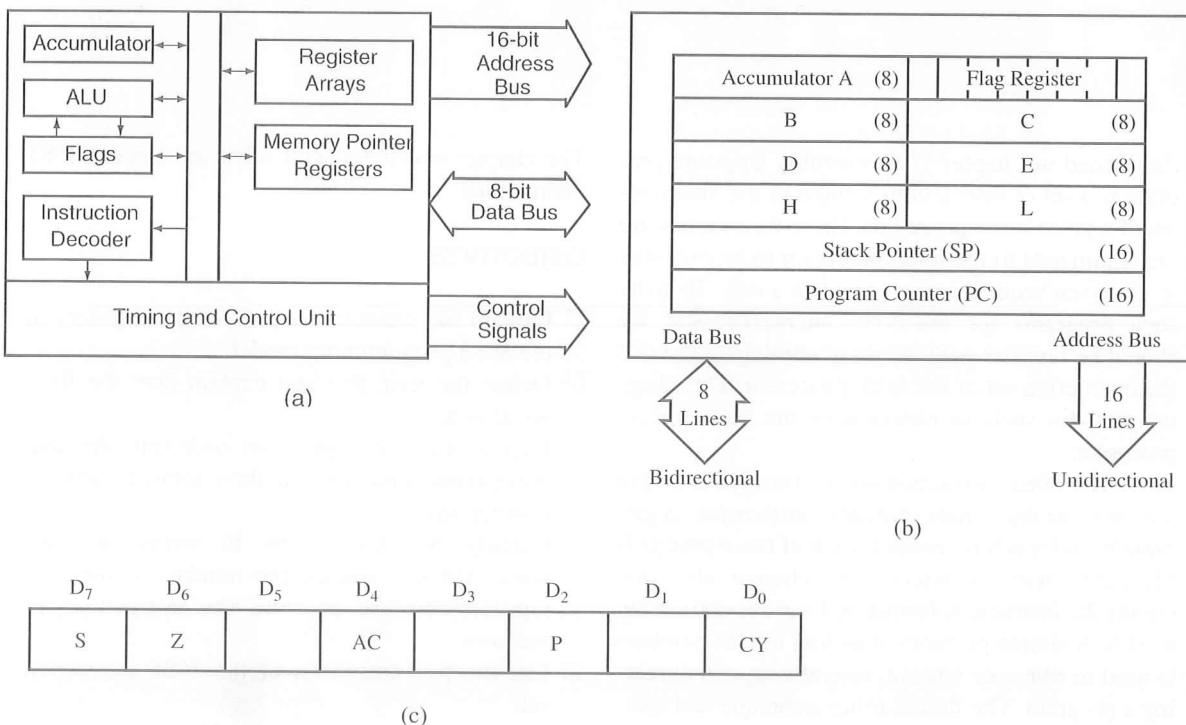

FIGURE 2.1
A model is a conceptual representation of a real object. It can take many forms, such as text description, a drawing, or a built structure. Most of us have seen an architectural model of a building. Similarly, the microprocessor can be represented in terms of its hardware (physical electronic components) and a programming model (information needed to write programs). In Chapter 1, we described a simplified hardware model of a microprocessor as a part of the microprocessor-based system (Figure 1.3). It showed three components: ALU, register array, and control. Figure 2.1 shows a hardware model and a programming model specific to the 8085 microprocessor.
The hardware model in Figure 2.1(a) shows two major segments. One segment includes the arithmetic/logic unit (ALU) and an 8-bit register called an accumulator, instruction decoder, and flags. The second segment shows 8-bit and 16-bit registers. Both segments are connected with various internal connections called an internal bus. The arithmetic and logical operations are performed in the ALU. Results are stored in the accumulator, and flip-flops, called flags, are set or reset to reflect the results (see Figure 2.1a). There are three buses: a 16-bit unidirectional address bus, an 8-bit bidirectional data bus, and a control bus. In Chapter 1, these three buses were shown as one system bus. The 8085 processor uses the 16-bit address bus to send out memory addresses, the 8-bit data bus to transfer data, and the control bus for timing signals. The details of the hardware model are included in later chapters.
The programming model consists of some segments of the ALU and the registers. This model does not reflect the physical structure of the 8085 but includes the information that is critical in writing assembly language programs. The model includes six registers, one accumulator, and one flag register, as shown in Figure 2.1(b). In addition, it has two 16-bit registers: the stack pointer and the program counter. They are described briefly as follows.
The 8085 has six general-purpose registers to store 8-bit data; these are identified as B, C, D, E, H, and L, as shown in Figure 2.1(b). They can be combined as register pairs—BC, DE, and HL—to perform some 16-bit operations. The programmer can use these registers to store or copy data into the registers by using data copy instructions.
The ALU includes five flip-flops, which are set or reset after an operation according to data conditions of the result in the accumulator and other registers. They are called Zero (Z), Carry (CY), Sign (S), Parity (P), and Auxiliary Carry (AC) flags; they are listed in Table 2.1 and their bit positions in the flag register are shown in Figure 2.1(c). The most commonly used flags are Zero, Carry, and Sign. The microprocessor uses these flags to test data conditions.